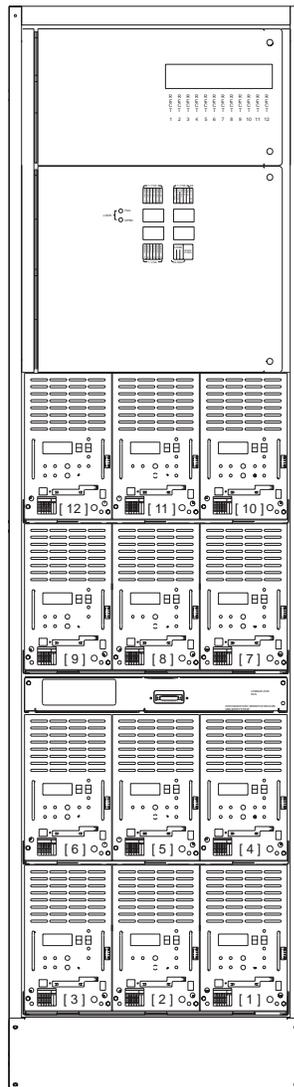

Figure 5-5: Rectifier Locations in J85500L-1
10. The rectifier positions should be numbered in the J85500L-1 from right to left and from bottom to top to correspond to the locations assigned to rectifiers by the controller software. See Figure 5-5. Apply the appropriate rectifier labels to the face of the rectifier front cover.